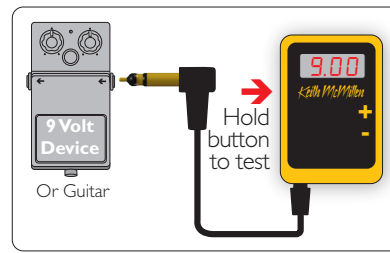

Figure 3
2. Plug the power probe into the input of the 9 Volt device you are testing. (Figure 3.)